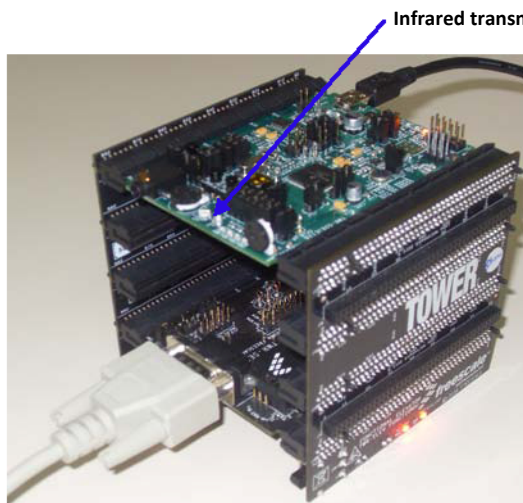
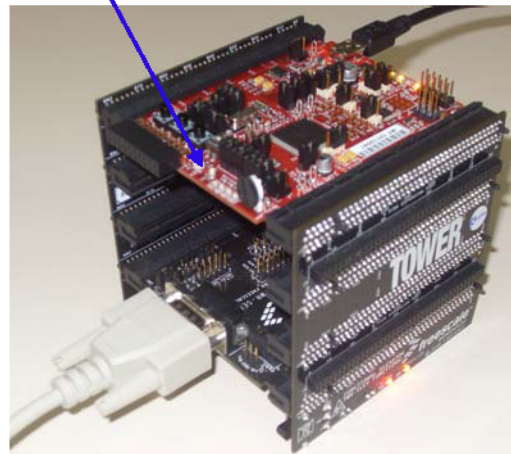

Figure 3. MC9S08JE128 Tower board
Figure 4. MCF51MM256 Tower board
2. Connect a mini-USB cable to the USB connector of the MM/JE board (it is the open-source BDM), and an RS-232 cable in the DB9 connector of the serial module, as shown in Figure 3 and Figure 4. Make sure that jumper J16 (USB MODE) of the serial module is connecting pin 1 and pin 2.